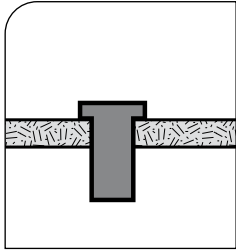

Fig. 7.4. Well-Nut is inserted into a pre-drilled hole with its flange against the outer surface. There is no need for access to the inner side.
9. Insert the ¼" Well-Nut into the drilled holes so that only the flange section remains above the roof surface (Fig. 7.4).